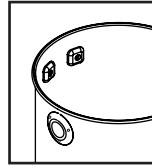

FIGURE 6
5. Position the tank, in the upright position, with the inlet facing you. Put the support assemblies inside the tank, then place the screws through the holes provided on left side of the tank. Make sure the plastic portion is located inside the tank. Turn the supports until the back of the supports fit flush against the inside curve of the tank. **FIGURE 6.**